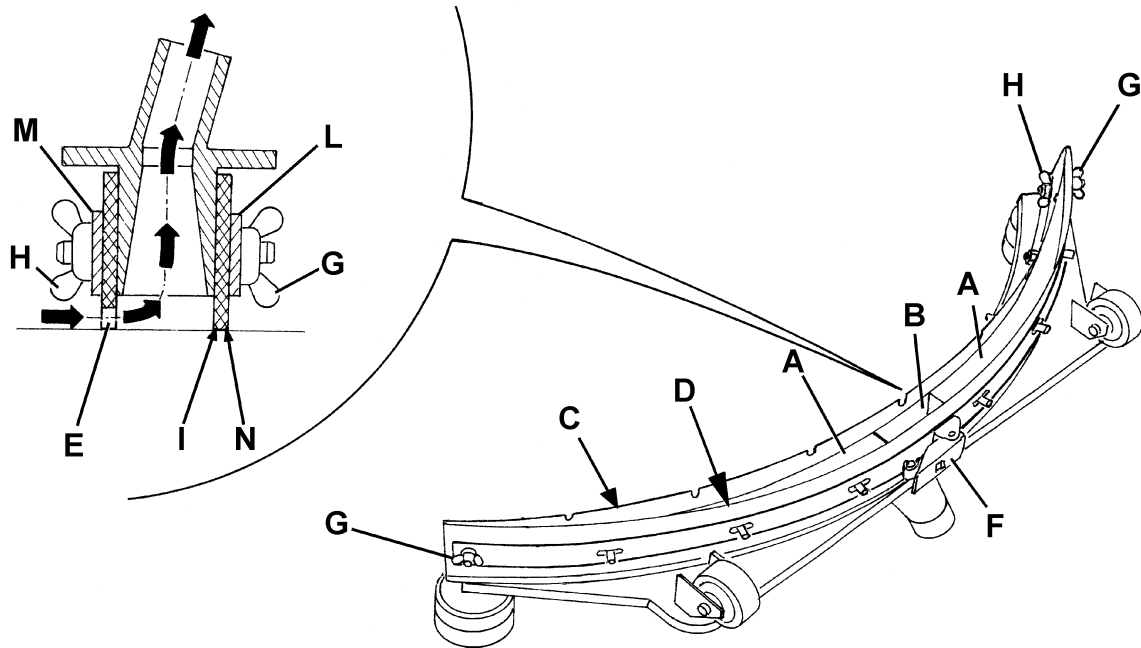

Figure 3
2. Insert the ignition key (42) and turn it to "I".
3. Lower the squeegee (12) by pressing the switch (36).
4. Turn the ignition key (42) to "0".
5. Disconnect the vacuum hose (11) from the squeegee.
6. Loosen the handwheels (15) and remove the squeegee (12).
7. Wash and clean the squeegee. In particular, clean the compartments (A, Fig. 3) and the hole (B) from dirt and debris. Check the front blade (C) and the rear blade (D) for integrity, cuts and tears; otherwise replace them.
2. Check that the edges (E and N, Fig. 3) of the front (17) and rear blades (18) lay down on the same level, along all their length; otherwise adjust their height according to the following procedure:
- Disengage the fastener (F) and loosen the wing nuts (G) to adjust the rear blade (D); then tighten the wing nuts and engage the fastener.
- Loosen the wing nuts (H) to adjust the front blade (C); then tighten the nuts.
3. Check the front blade (C) and rear blade (D) for integrity, cuts and tears; otherwise replace them according to the following procedure. Check that the front corner (I) of the rear blade is not worn; otherwise, overturn the blade to replace the worn corner with an integral one. If the other corners are worn too, replace the blade as shown below:
- Disengage the fastener (F), remove the wing nut (G) and the retaining strip (L), then replace (or overturn) the rear blade (D). Install the blade in the reverse order of removal.
- Remove the wing nuts (H) and the retaining strip (M), then replace the front blade (C). Install the blade in the reverse order of removal.